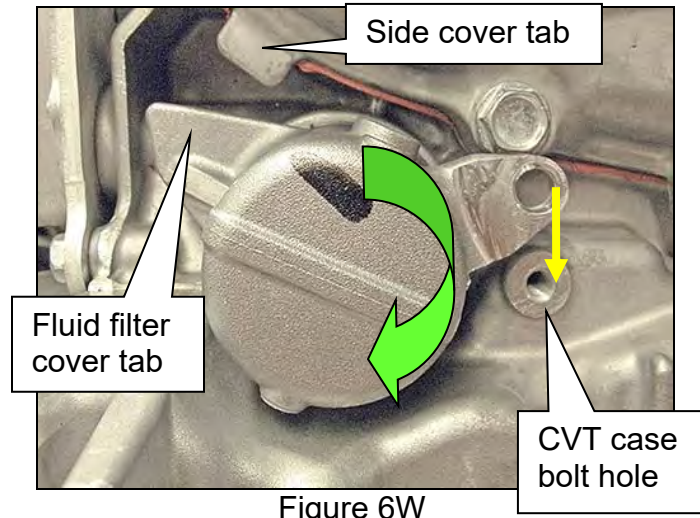

Figure 6W
- a. Locate the tab of the fluid filter cover near the tab of the side cover as shown in Figure 6W.